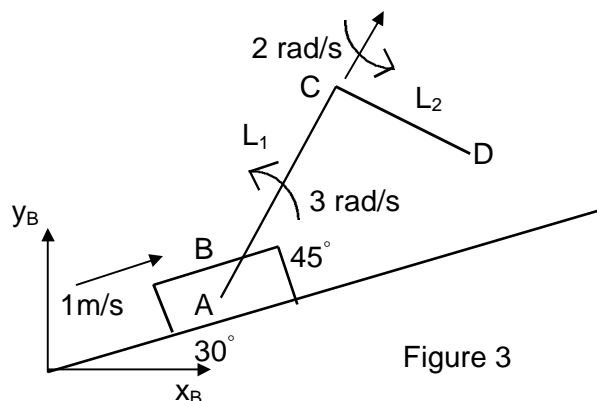

Figure 3
- (b) Figure 3 shows a 2-link robot attached to a rigid block B at Joint A, which is a rotational joint whose axis of motion is parallel to z_B . Link L_1 is parallel to the xy plane of Frame B, has length 2 m, and is rotating at a constant speed of 3 rad/s. Link L_2 has length 1 m and is rotating at a constant speed of 2 rad/s. The axis of motion of L_2 is along Link L_1 in the direction shown in Figure 3. The block B is sliding up the inclined plane at a constant rate of 1 m/s. At a certain instant of time t_1 , the links are parallel to the xy plane of Frame B (configuration shown in Figure 3.)